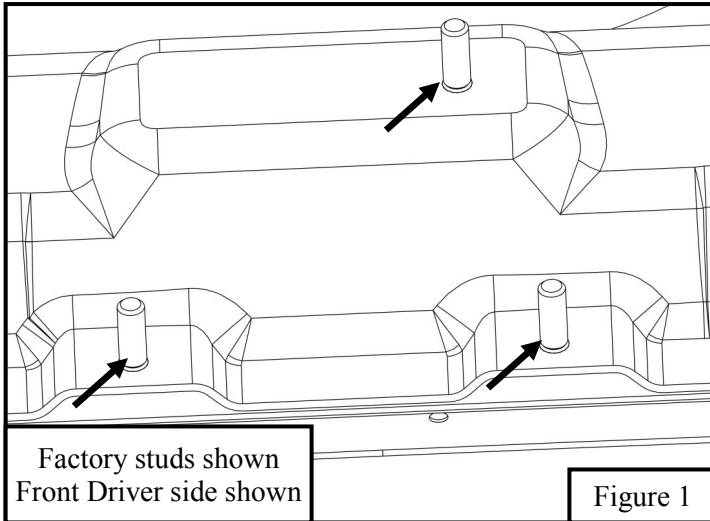

Figure 1
2. Start installation on driver's side. On the rocker panel find locations of factory studs. In each location there should be 3 studs. See **Figure 1**.